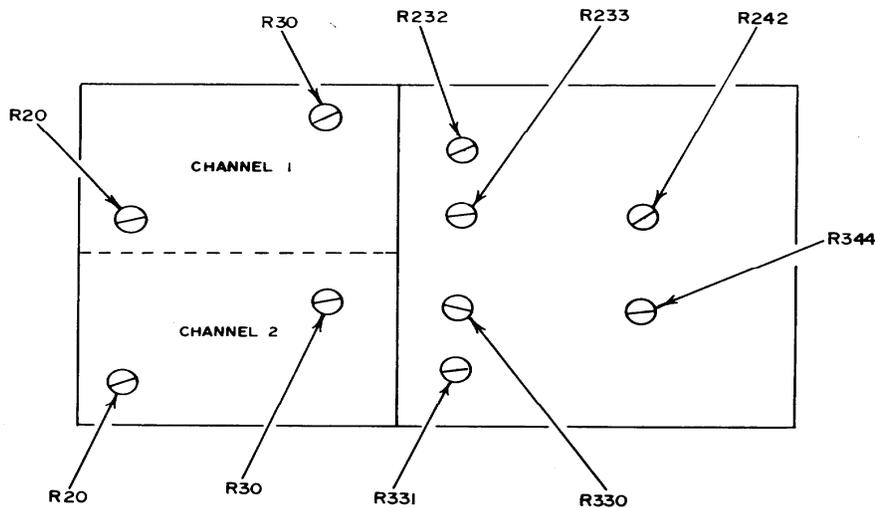

Figure 2. Test instrument - left-side view.
- (1) Adjust channel 1 R20 (fig. 2) for a risetime between 300 and 350 ps.
- (2) Adjust channel 2 R20 (fig. 2) for a risetime between 300 and 350 ps.
- (1) Remove connection from **CH1** and set both **DELAYED SWEEP SEC/DIV** and **DELAYING SWEEP** switches to **1 μ S** and press **HF SYNC** pushbutton.
- (2) Adjust R233 (fig. 2) for no vertical movement while simultaneously adjusting R232 (fig. 2) back and forth between fully ccw and 90 degree position. Readjust R232 fully ccw.
- (3) Set **CH1 VOLTS/DIV** switch to **10 mV**. Center trace on horizontal graticule with **DC OFFSET** control.
- (4) Press **LO NOISE** pushbutton and adjust R242 (fig. 2) for no trace shift while pressing and releasing **NO NOISE** button.
- (5) Release **LO NOISE** and **HF SYNC** pushbuttons. Set **CH1 VOLTS/DIV** switch to **50 mV** and **DELAYED SWEEP SEC/DIV** and **DELAYING SWEEP** switches to **2 μ S**.
- (6) Reconnect pulse generator to **CH1** and release **HF SYNC** pushbutton.
- (7) Adjust R232 until first dot is on rise of pulse and level with top lead corner of display.
- (8) Repeat (1) above for channel 2.
- (9) Adjust R330 (fig. 2) for no vertical shift while simultaneously adjusting R331 (fig. 2) back and forth between fully ccw and 90 degree position. Readjust R331 fully ccw.
- (10) Repeat technique of (3) and (4) above for **CH2**, except adjust R344 (fig. 2).
- (11) Repeat technique of (5) and (6) above for **CH2**.
- (12) Adjust R331 until first dot is on rise of pulse and level with top lead corner of display.
(1) Set **VOLTS/DIV** switch to **10 mV** and **DELAYED SWEEP SEC/DIV** and **DELAYING SWEEP** switches to **1 μS**.
(2) Connect oscilloscope calibrator **SOURCE/MEASURE CHAN 1** to **CH1** and **CH2 INPUTS**.
(3) Adjust oscilloscope calibrator square wave output frequency for 100 kHz and amplitude for 4 divisions of display. If oscilloscope does not display square wave with flat top and level within 0.2 divisions, perform **b** below.
- (4) Press **CH1** and release **CH2** pushbuttons.
- (5) Repeat technique of (3) above for channel 1.
b. Adjustments. Adjust channel 2, R30 (channel 1, R30) (fig. 2) for optimum square wave display.